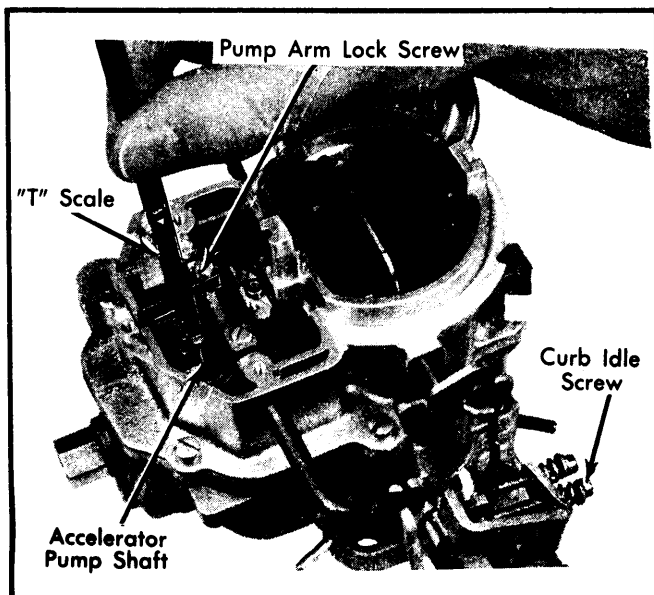

Fig. 4 Adjusting Accelerator Pump Stroke
1) Remove step-up piston cover plate and gasket. Back off curb idle screw to fully close throttle valves. Fast idle cam must be in open position. See Fig. 4.